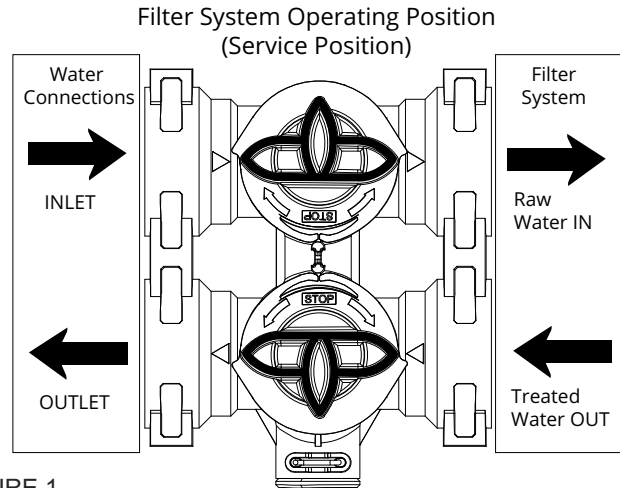

FIGURE 1
2. Slowly turn the Multi-Function Valve top handle into the Operating Position. (See Figure 1 on page 10.) Turn Flush Valve Options a. / b. to open positions.
9. With tubing connected to equipment. Turn Multi-Function Valve to the Operating Position (See Figure 1 on page 10) and check for leaks.
7. On Multi-Function Valve Turn Upper Handle to the Operation Position. (See figure 1 on page 10)